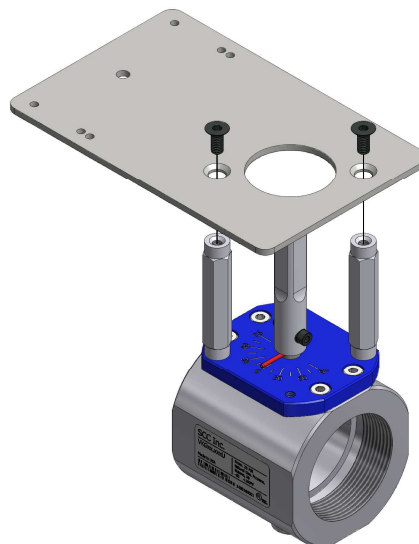

Figure 4: Mounting Bracket Installation
3. Place a small amount of blue Loctite on the end of each of the (2) M6 x 14mm flat socket head screws. Using a 4mm hex key, fasten the mounting bracket to the top of the standoffs as shown in Figure 4 below. The bracket may also be rotated 180° if desired.